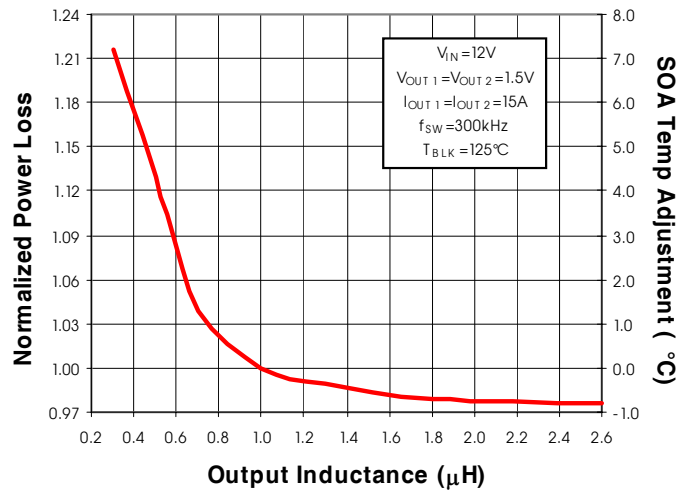

Fig. 7: Normalized Power Loss vs. Inductance
(Fig. 7) Normalized power loss for inductor value ≈ 0.98
- (Fig. 7) Normalized power loss for inductor value  $\approx 0.98$
- (Fig. 7) Normalized SOA Temperature for inductor value  $\approx -0.7^{\circ}C$